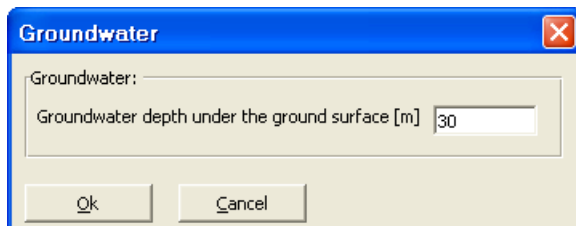

Figure 11-26 "Groundwater depth under the ground surface" edit box
- Double-click on the groundwater level. The corresponding edit box appears allowing you to modify the groundwater depth under the ground surface, Figure 11-26. To neglect the uplift pressure on the raft, groundwater level is chosen at anywhere under the raft basement